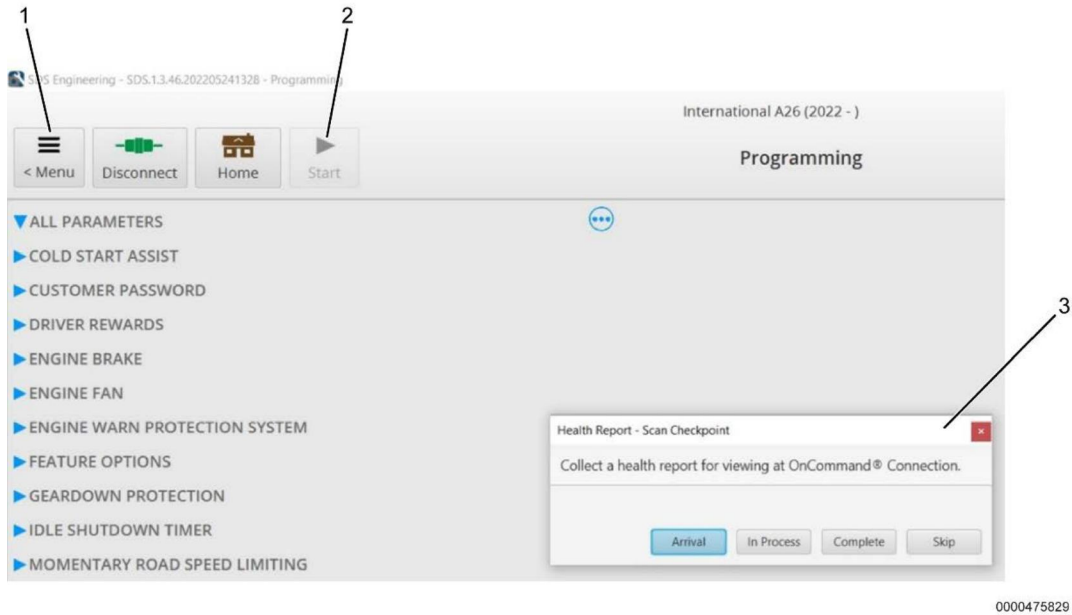

Figure 1. SDS Programming Screen
10. Collect a health report by selecting **ARRIVAL** in **HEALTH REPORT – SCAN CHECKPOINT** box (Figure 1, Item 3).
12. Select **MENU** button (Figure 1, Item 1).
19. Select **START / PROGRAM** button (Figure 1, Item 2).